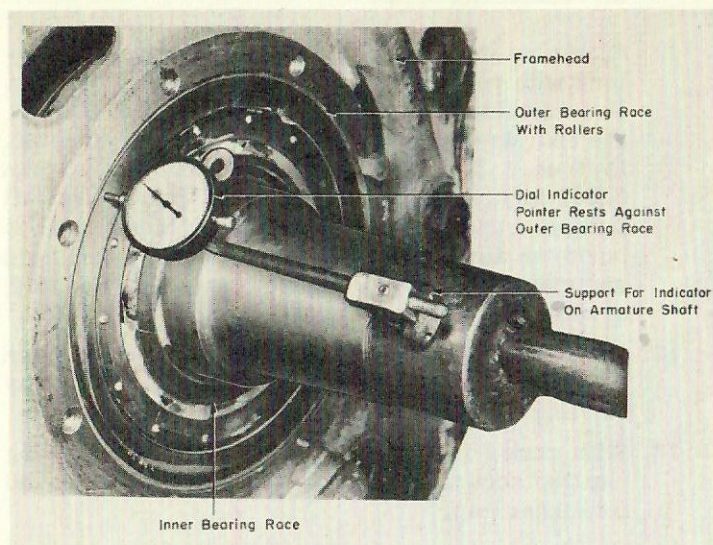

Fig. 30-10
15. Remove pinion-end outer bearing cap and check alignment of outer bearing race as in item 11 above, by clamping an indicator to the shaft. See Fig. 30-10. If outer race runs out more than 0.003 inch, check to be sure framehead bolts are pulled up tight and that there is no dirt or burrs between register fits of framehead and magnet frame.